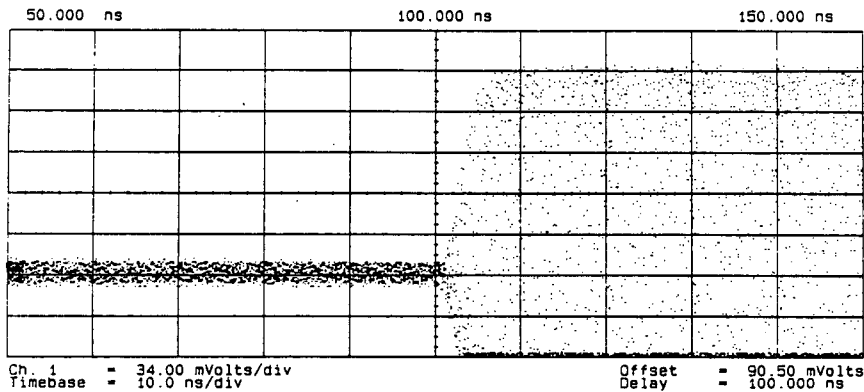

Figure 2-16. Signal Level between RF Power Off and On
- Adjust the channel 1 volts/division and offset to obtain a 5 division signal level between the RF power off and the RF power on (see figure 2-16.)